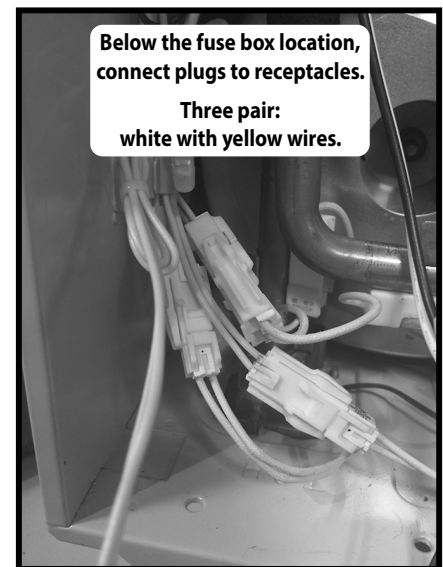

Figure 73.
- 6.2 Below the fuse box location, connect three plugs and receptacles as shown in Figure 73.